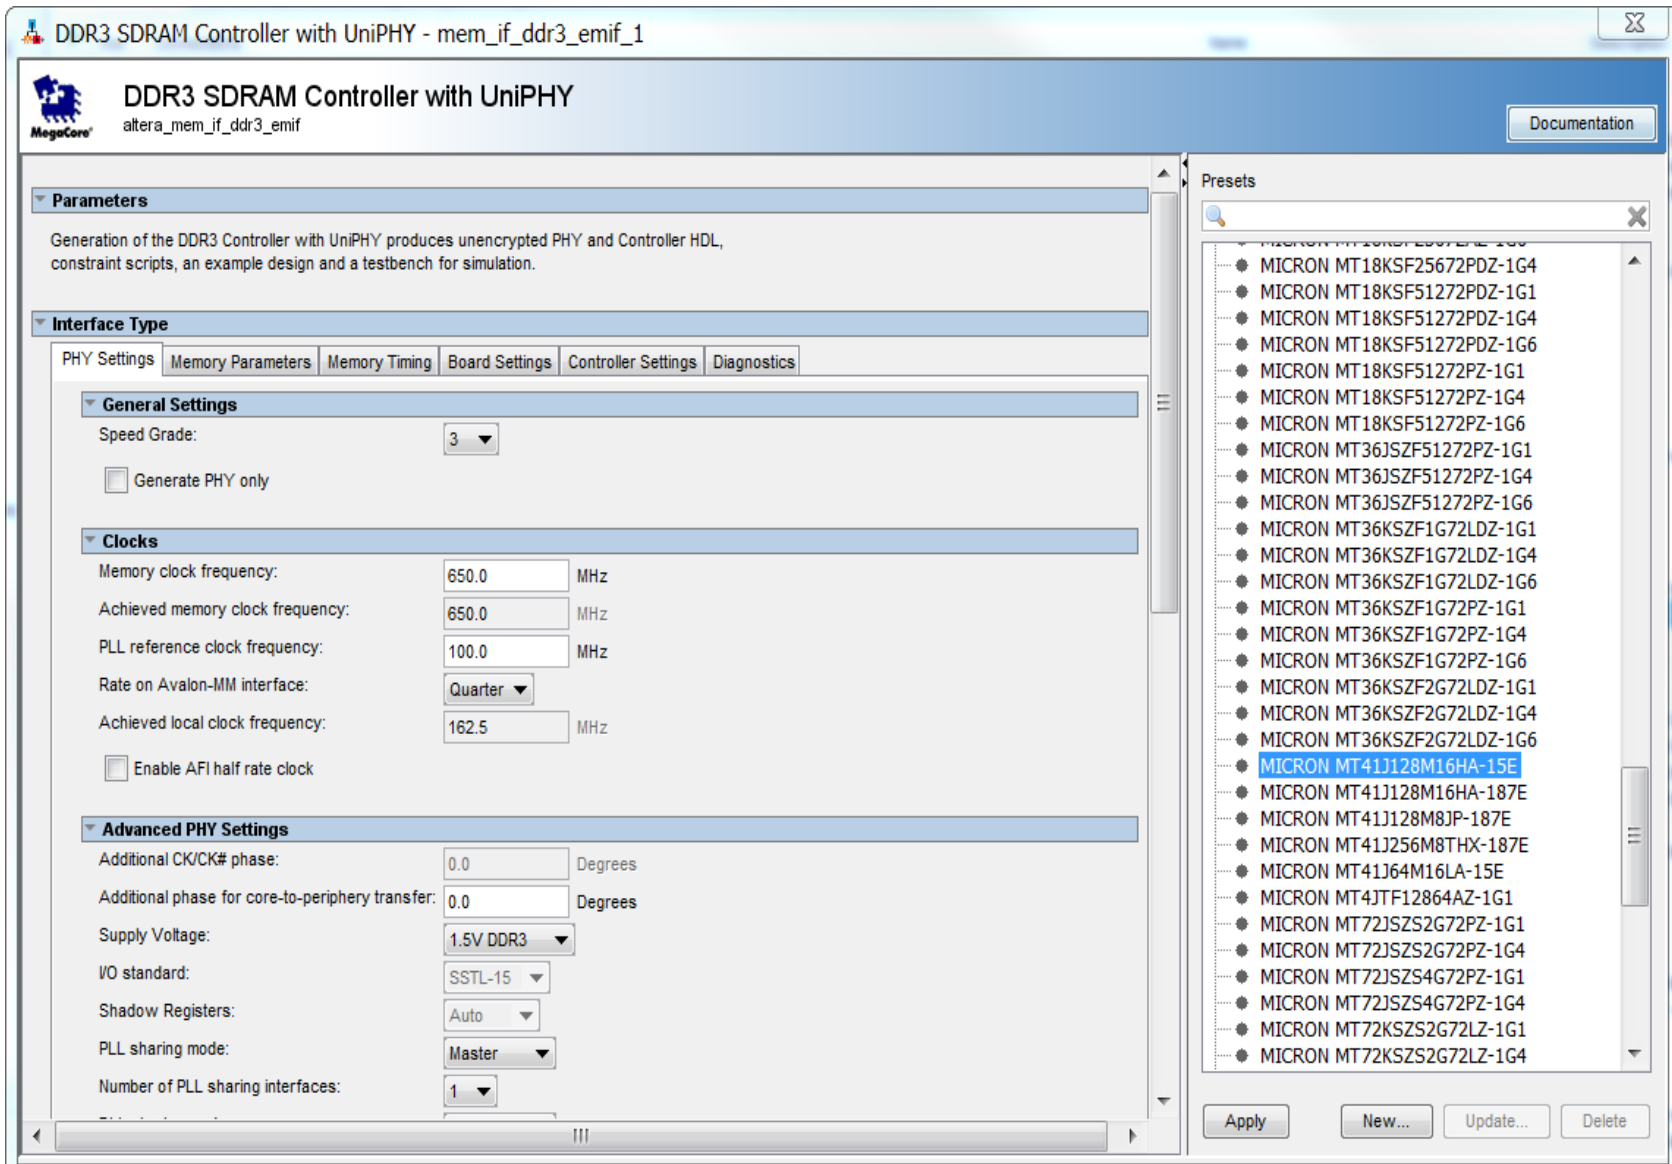

Figure 3: User interface to configure external DDR3 memory
- Open the user interface (UI) for the DDR3 memory controller (shown in figure 3) from QSYS or Megawizard
- Set the desired memory clock frequency and the reference input clock frequency on the PHY settings tab of the UI. A memory interface clock frequency of 650MHz generated from a 100MHz external reference clock is shown in figure 3.